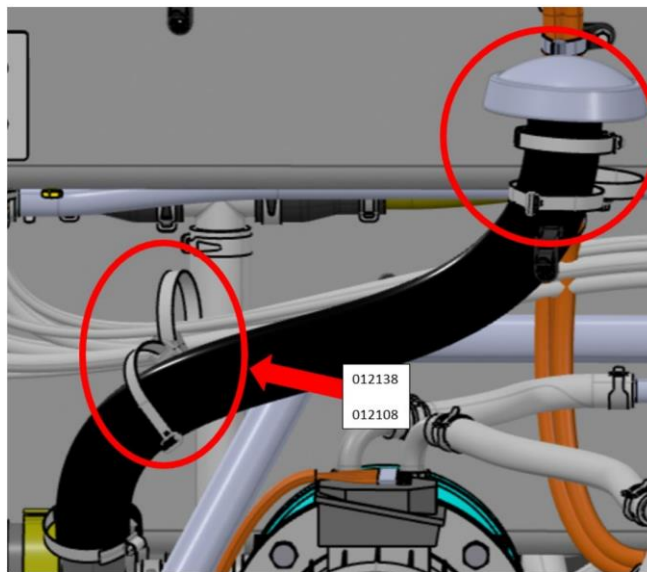
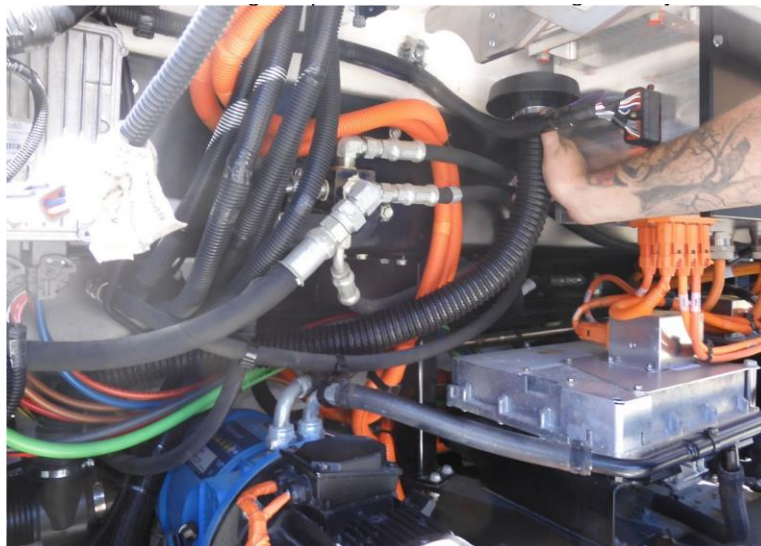

Figure 1: Snorkel Routing with Swivel Spacers and Ties
Figure 2: Snorkel Routing Close to HVJB
- b. If there is no snorkel hose present, the snorkel hose will need to be installed with kit 064563 (KIT, SERVICE, AIR COMPRESSOR, W/ SNORKEL). Route the Snorkel, as shown in Figure 1 and Figure 2, as high and close to the HVJB as possible. Apply Swivel Bundle Spacers (PN: 012108) and Cable Ties (PN: 012138) as shown in Figure 1. Disregard the installation of the mushroom cap, as that part will be replaced in following steps.